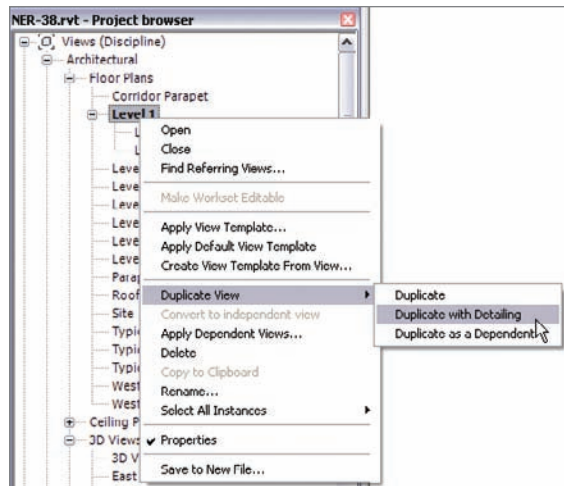

FIGURE 20.20 Duplicating the view
2. Right click on the Level 1 view in the Project Browser, and click Duplicate > Duplicate With Detailing, as shown in Figure 20.20.